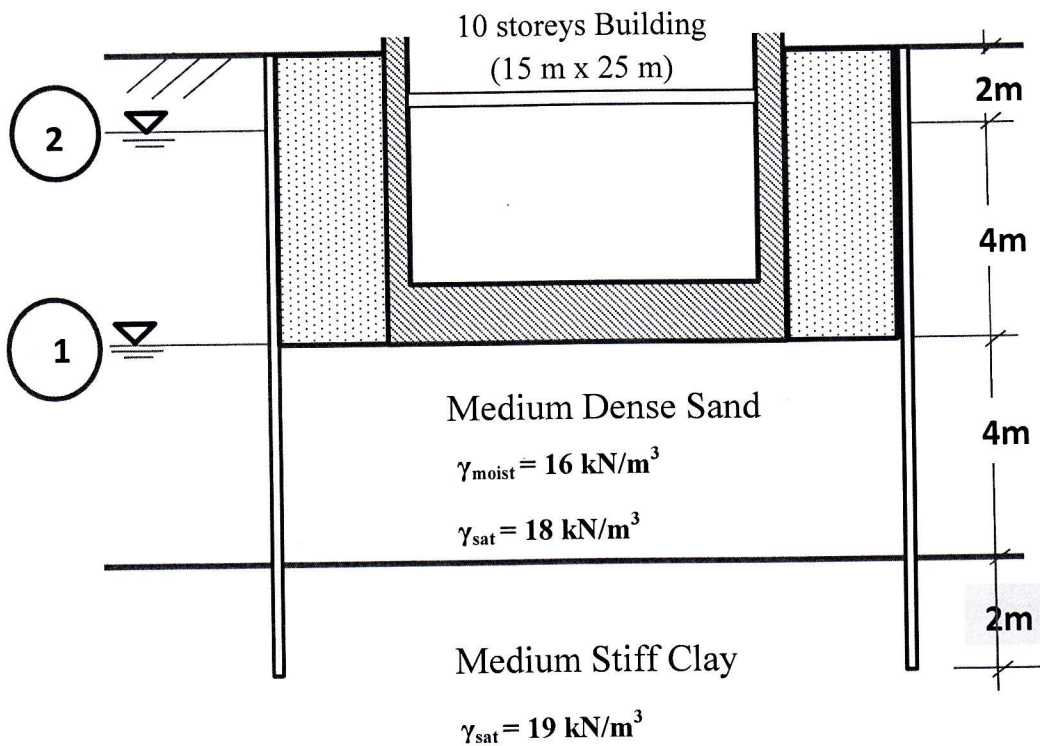

Figure 2
2. An excavation will be made for a 10-storey 15 m x 25 m building. At the site, 10 m thick medium dense sand layer is overlying medium stiff clay. Temporary support of earth pressure and water pressure will be made by cantilever pile wall (Figure 2). Gross pressure due to dead and live loads from the structure and the weight of the raft is 130 kPa. This pressure may be assumed uniform.